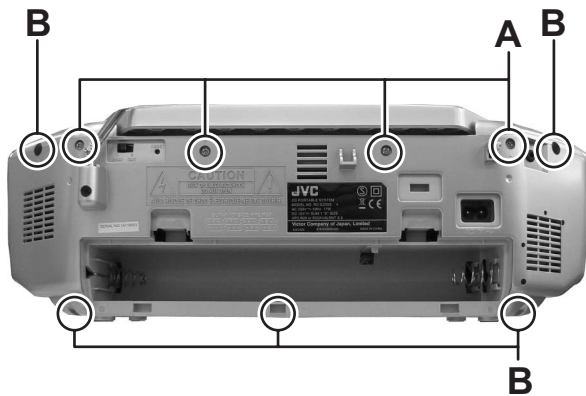

Fig.1
3.1.1 Removing the Rear cabinet assembly (See Fig.1 to 4)
- (1) Remove the four screws **A** and five screws **B** attaching the Rear cabinet assembly. (See Fig.1)